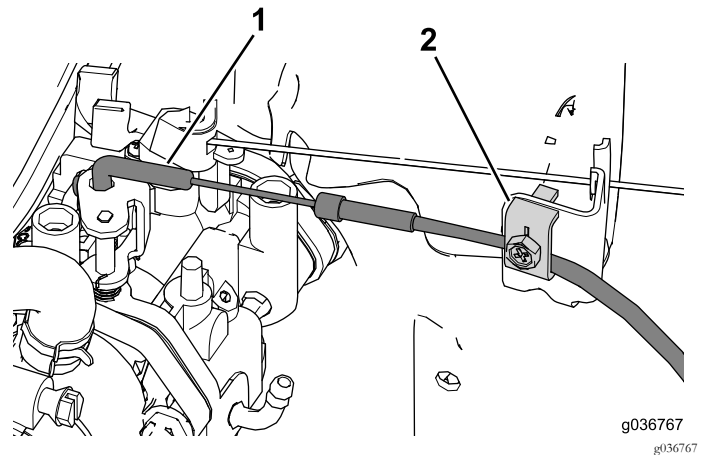

Figure 34
2. Position the bend on the end of the throttle cable into the choke assembly (Figure 34).
3. Use the cable clamp to secure the choke cable into position (Figure 34).